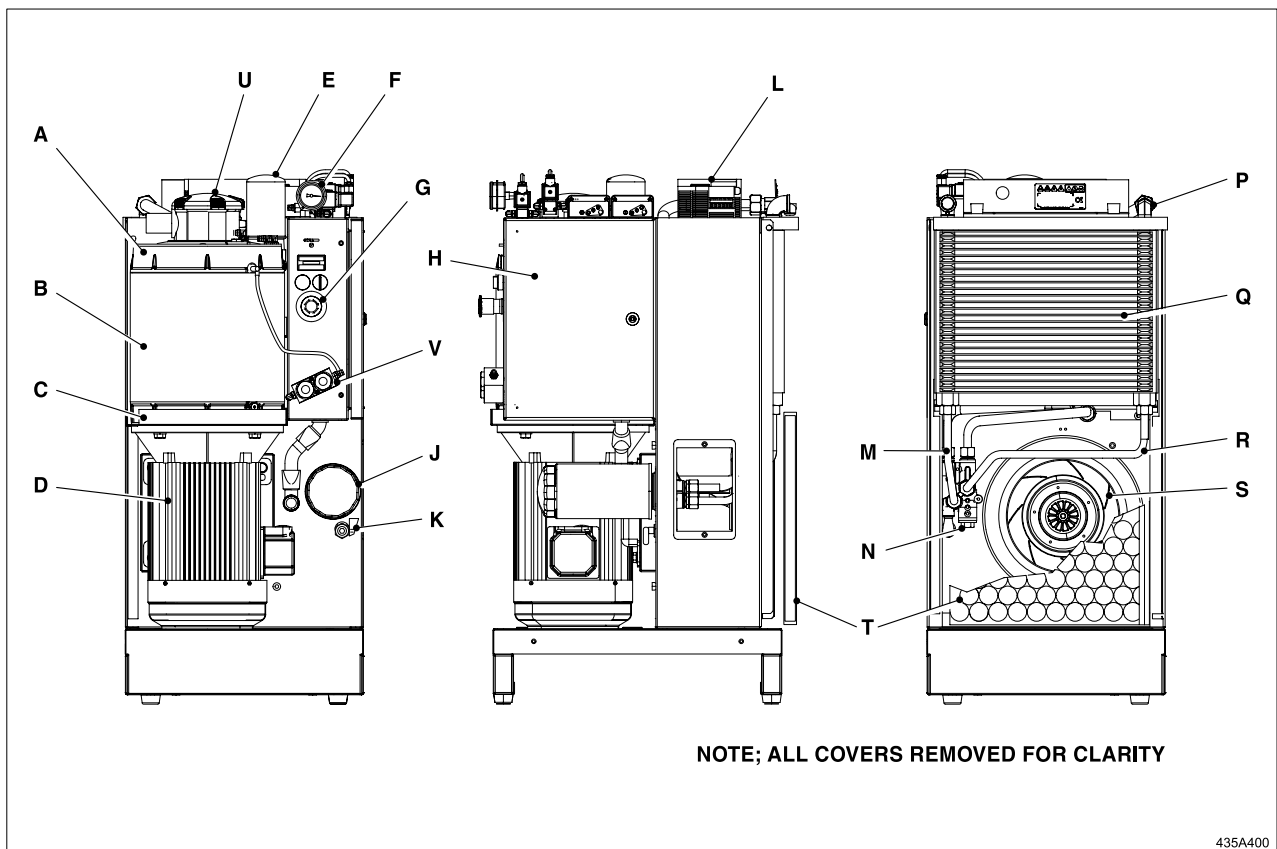

Fig. 12 - Compressor Assembly
6.1 Compressor Assembly Fig. 12